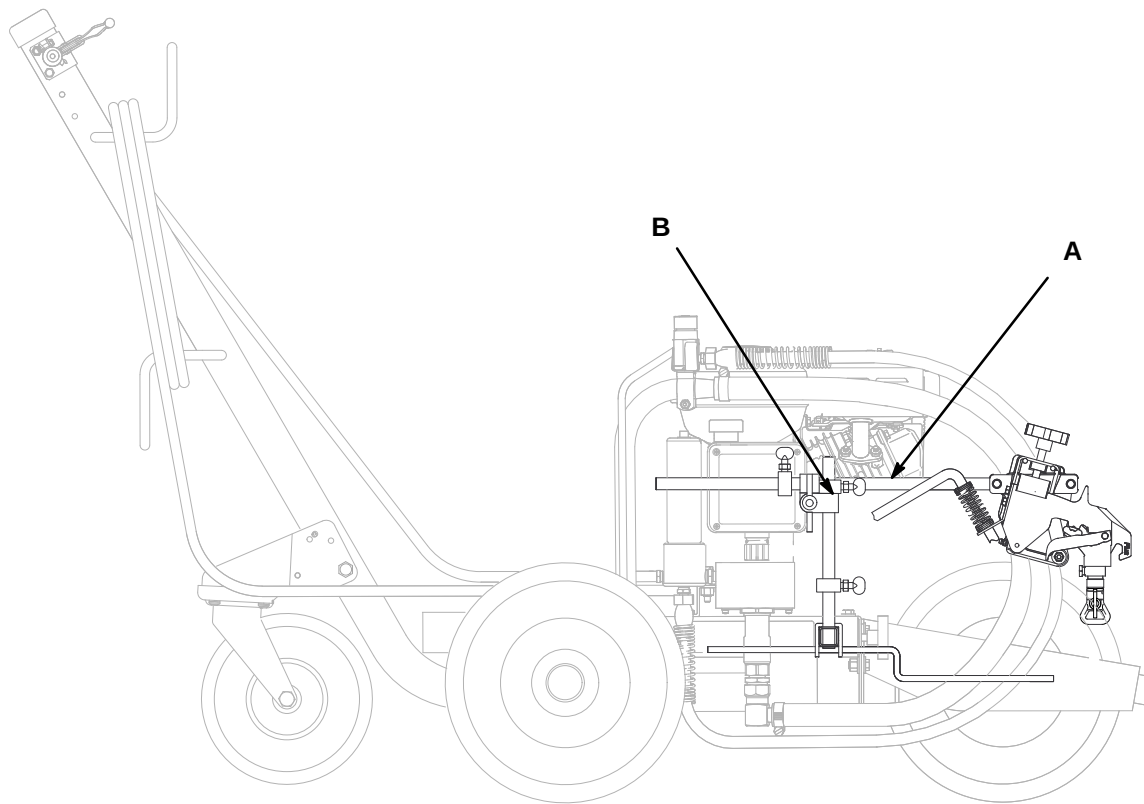

Fig. 3
1. Fig. 3. For straightline painting, move spray gun arm (A) to pre-set upper collar (B) position.